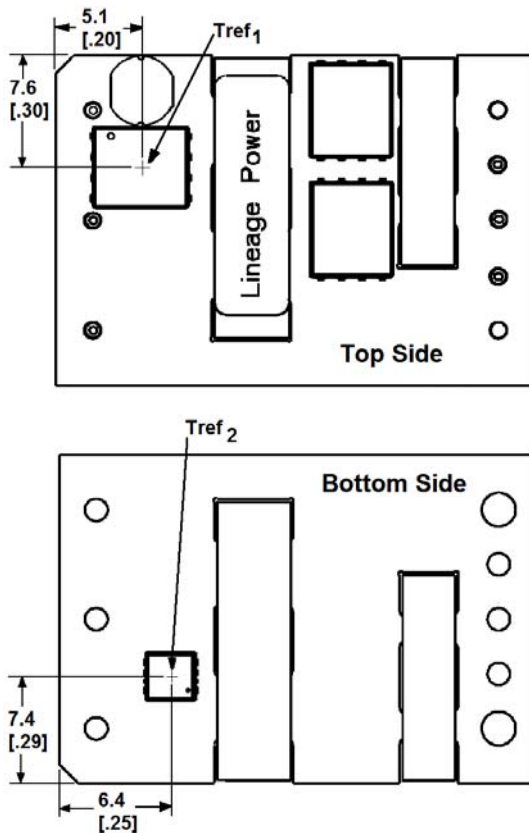

Figure 13. Trefx Temperature Measurement Location.
To provide protection under certain fault conditions, the unit is equipped with a thermal shutdown circuit. The unit will shutdown if the thermal reference point  $T_{ref}$  (Figure 13), exceeds 128-133 $^{\circ}$ C (typical) depending on  $T_A$  and airflow, but the thermal shutdown is not intended as a guarantee that the unit will survive temperatures beyond its rating. The module can be restarted by cycling the dc input power for at least one second or by toggling the remote on/off signal for at least one second. If the auto-restart option (4) is ordered, the module will automatically restart upon cool-down to a safe temperature.
The thermal reference points,  $T_{ref,x}$ , used in the specifications are shown in Figure 13. For reliable operation, the temperature of both  $T_{ref}$  points should not exceed 125°C.